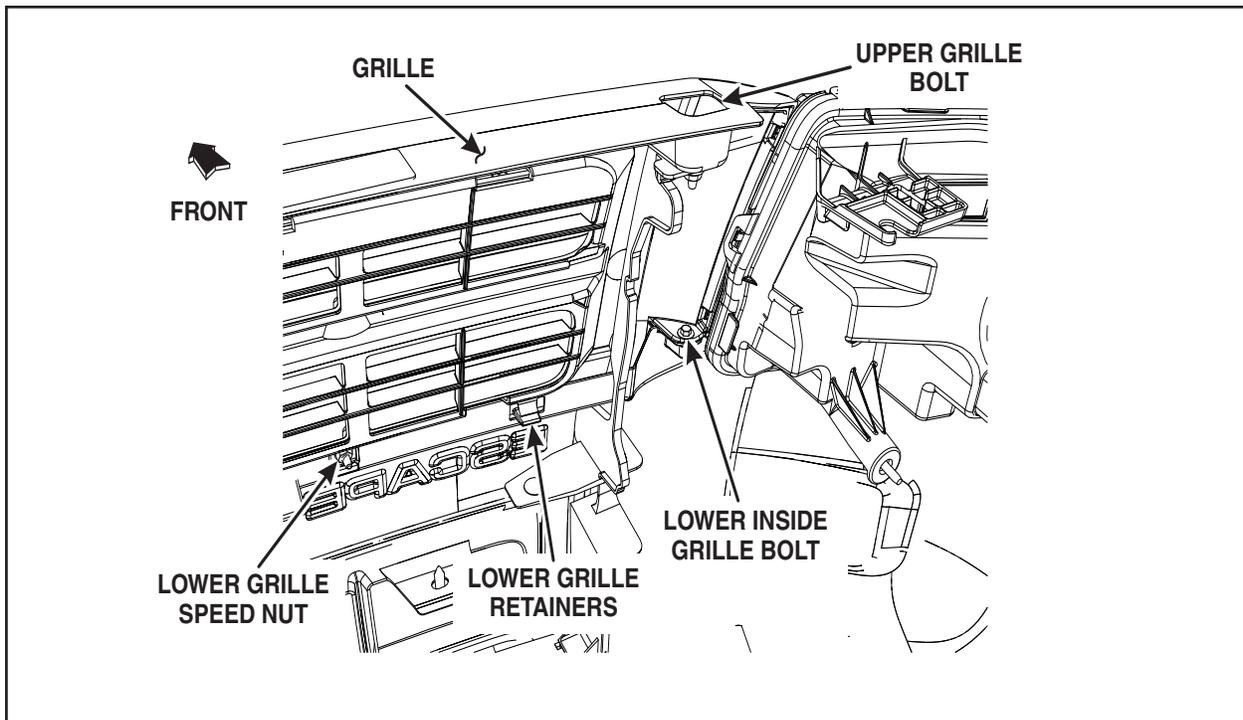

FIGURE 3
3. If the grommet is **NOT** present, remove the radiator grille. See Figure 3.
5. Install the radiator grille. See Figure 3.
2. Install the radiator grille onto the bumper cover. See Figure 3.